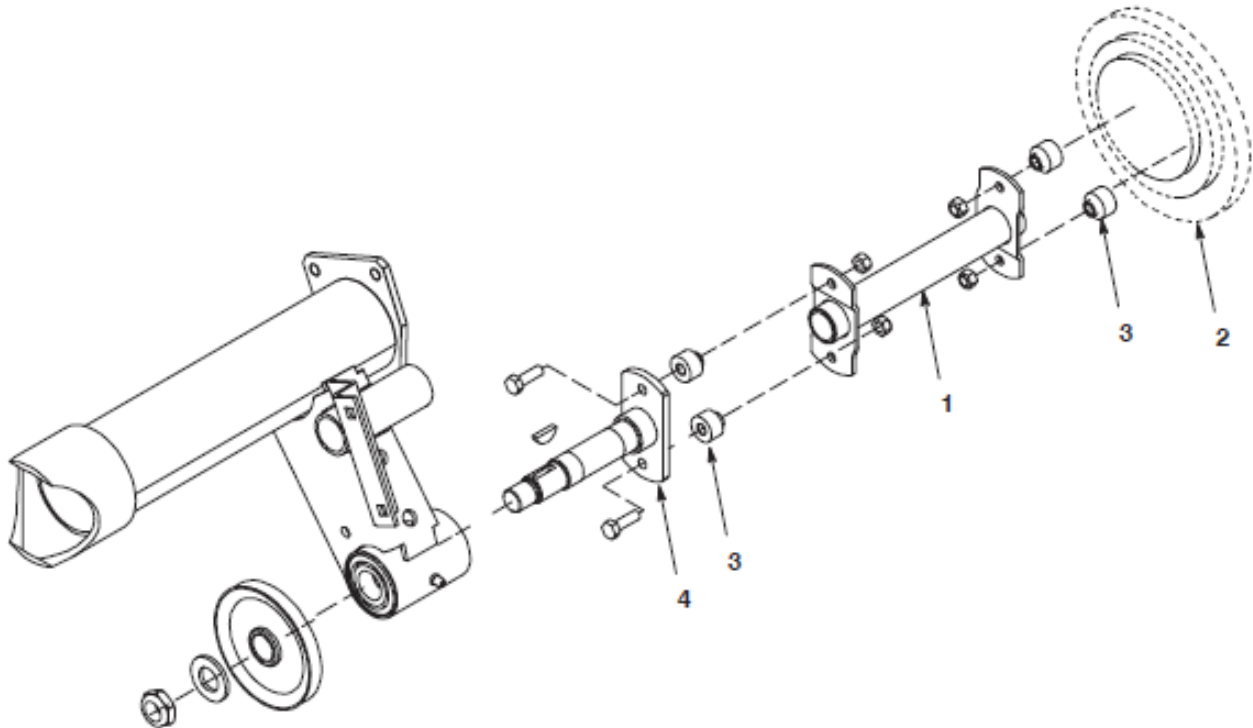

Figure 9
- B. Using two of the capscrews, washers, and thick spacers, mount the drive shaft, without the rubber coupling, to the engine pulley (Fig. 9).
- C. Using two of the capscrews, washers, and thick spacers, mount the jack shaft, without the rubber coupling, to the drive shaft (Fig. 9).